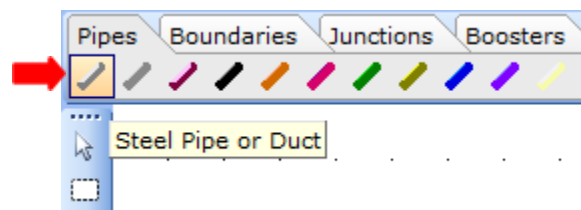

Figure 6: Steel Pipe of Duct Icon.
6. We can now connect the boundaries and compressor by selecting the desired pipe material from the *Component Palette*. In this design case, we know the pipe is a Schedule 40 steel pipe. Therefore, we need to select the Steel Pipe or Duct icon from the Component Palette (Figure 6).